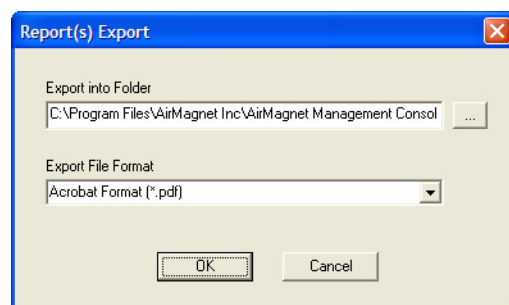

Figure 11-5: Report(s) Export dialog box
- 1) From the Reports screen, right-click the report or report book of interest, and click **Export** from the pop-up menu. The Report(s) Export dialog box appears. See Figure 11-5.